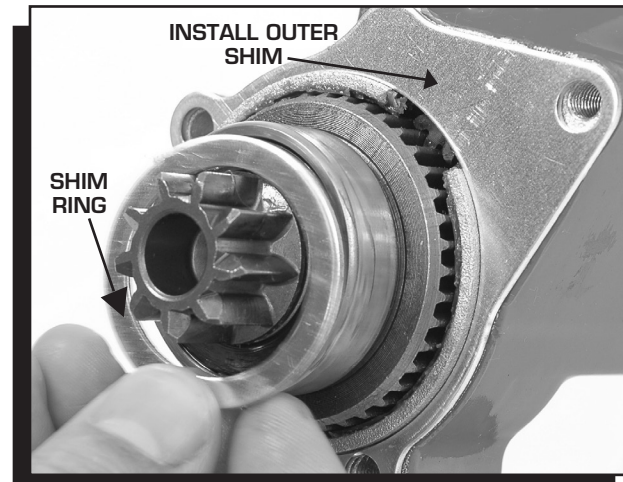

Figure 3 Installing the Pinion Shim Spacers.
- **If there is not enough clearance**, you will need to install the supplied shim kit by removing the mounting block (Figure 3). Place the small shim ring in the bearing bore and install the outer shim on the support housing. Reinstall the mounting block. This will move the pinion gear into the starter approximately 0.060".
After cranking the engine several times, you can inspect the witness pattern on the pinion gear. The pattern should show 1/4" to 3/8". If over, the internal shim is required. See Figure 3.